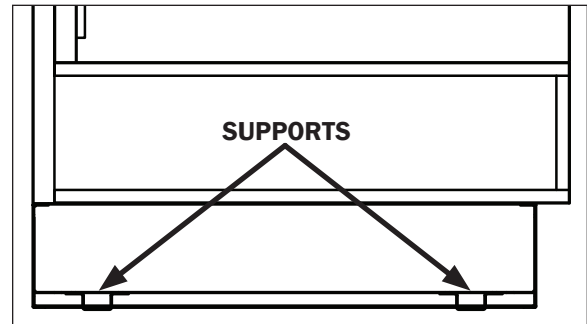

Fig. 1 Horizontal supports (BWS-B-D)
7. Locate horizontal support positions along the chalk line (Fig. 1 & 2). Spot properly leveled shim packs at each support location.